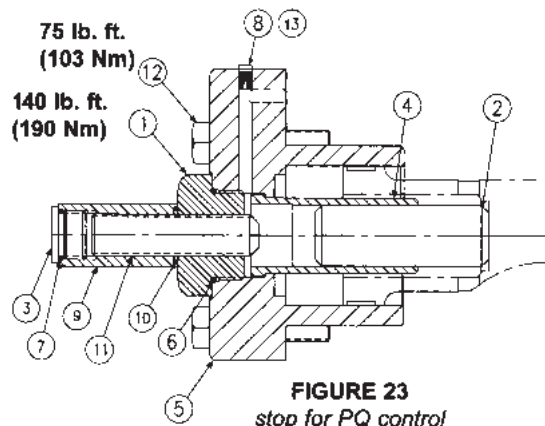

FIGURE 23
1. See Figure 23. Remove nut (9) and maximum volume screw (11).
2. Remove guide (1).
3. Remove 4 screws (12) holding cap to pump.
PARTS LIST FOR FIGURE 23